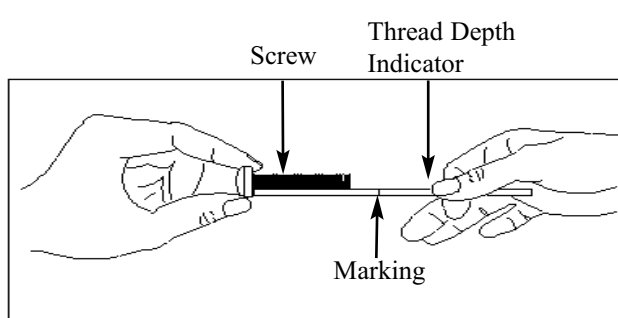

Figure 2
3. The screw length must not bypass the marking. Select another screw size (Figure 2 and 3), until you find one that comes closest to your mark without going past.